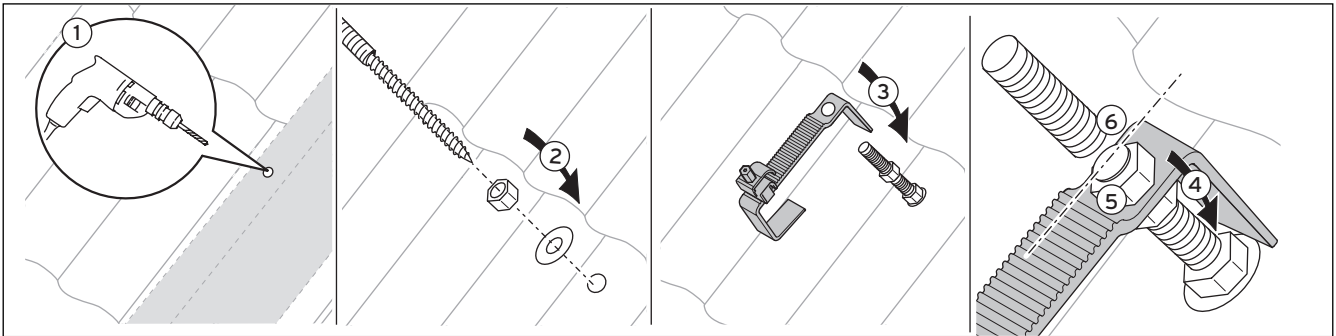

Fig. 5.8 Fixing with stair bolt
- Join the mounting rails and fix them with the clamping elements on the brackets (see Fig. 5.8).